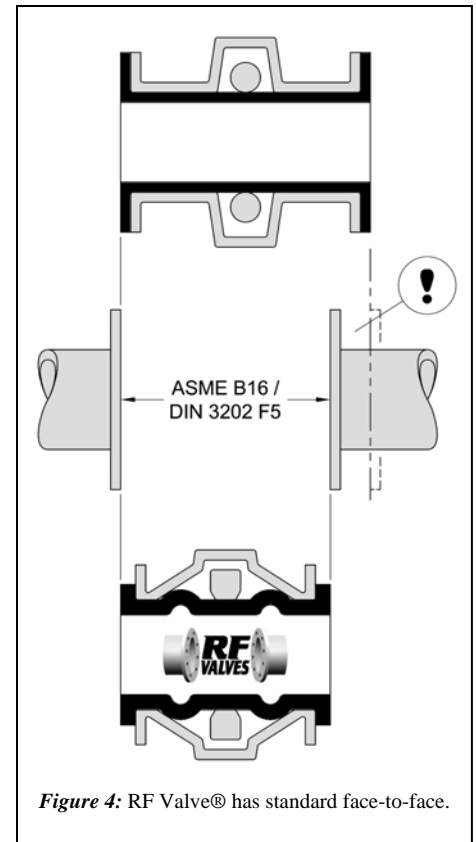

Figure 4: RF Valve® has standard face-to-face.
- To allow the face-to-face length of the RF Valve® to meet various piping standards (for example ASME B 16 and DIN 3202 F5). This enables direct replacement of any valve with common, standard face-to-face dimensions in the field without having to modify piping (Fig. 4). With its patented arch design, the RF Valve® elastomer tube flexes, not stretches, during closure while conforming to a standard face-to-face dimension. Other pinch valves that have straight sleeves and longer face-to-face dimensions must stretch to close the valve increasing fatigue and wear.